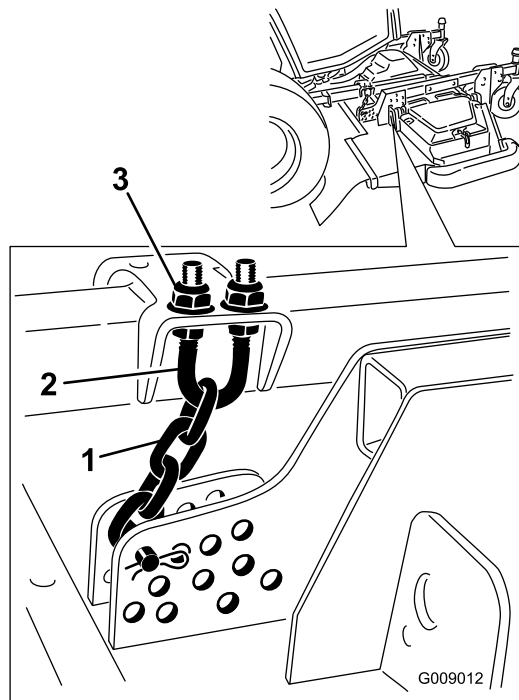

Figure 95
5. Loosen the jam nuts on the top or bottom of the height-of-cut chain U-bolt (Figure 95).